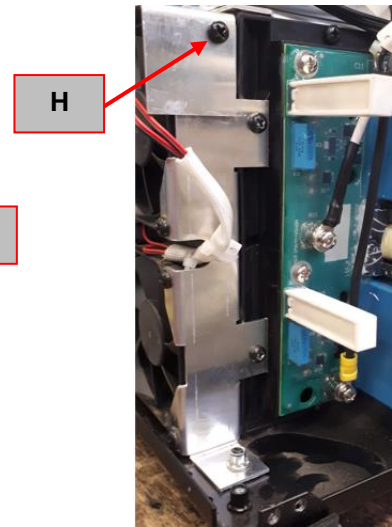

Figure 49
12. Using the PH02 screddriver remove the screw (H). See **Figure 49**